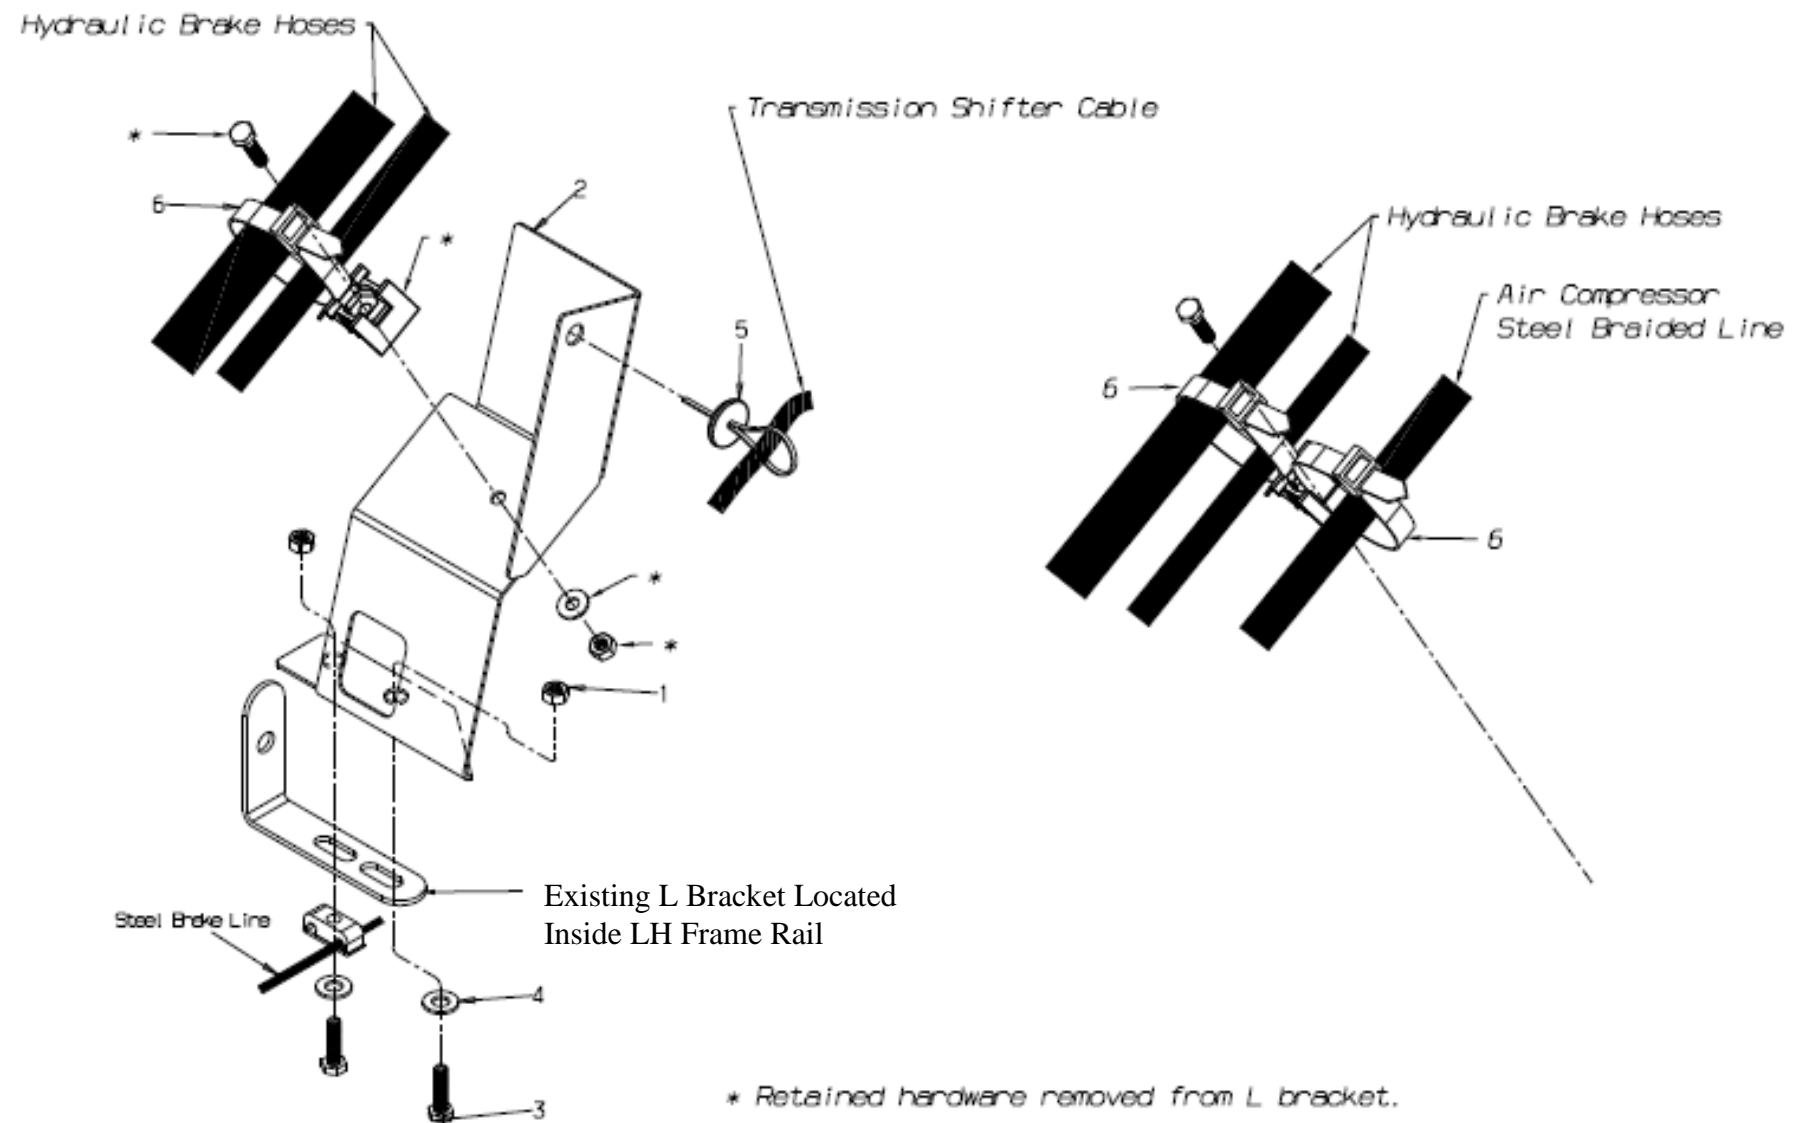

Figure 1
4. Locate the existing steel brake line L bracket mounted to the inside of the LH frame rail. Remove and retain the hydraulic brake line clamp, two-way saddle and fasteners from the top of the L bracket (Figure 1).
5. Install heat shield bracket (Item 2) to the top of the L bracket with fasteners (Items 1, 3, 4) and remount the metal brake line clamp under the existing L bracket (Figure 1).
6. Install the previously removed two-way saddle containing the rubber hydraulic brake line to the heat shield using the existing fasteners as shown (Figure 1).
7. On units with an air compressor, secure the air compressor steel braided line to the heat shield saddle with an additional tie cable (Item 6) separate of hydraulic brake lines as shown (Figure 1).
8. Secure the transmission shifter cable to the side of the heat shield with button head zip tie (Item 5) as shown (Figure 1).